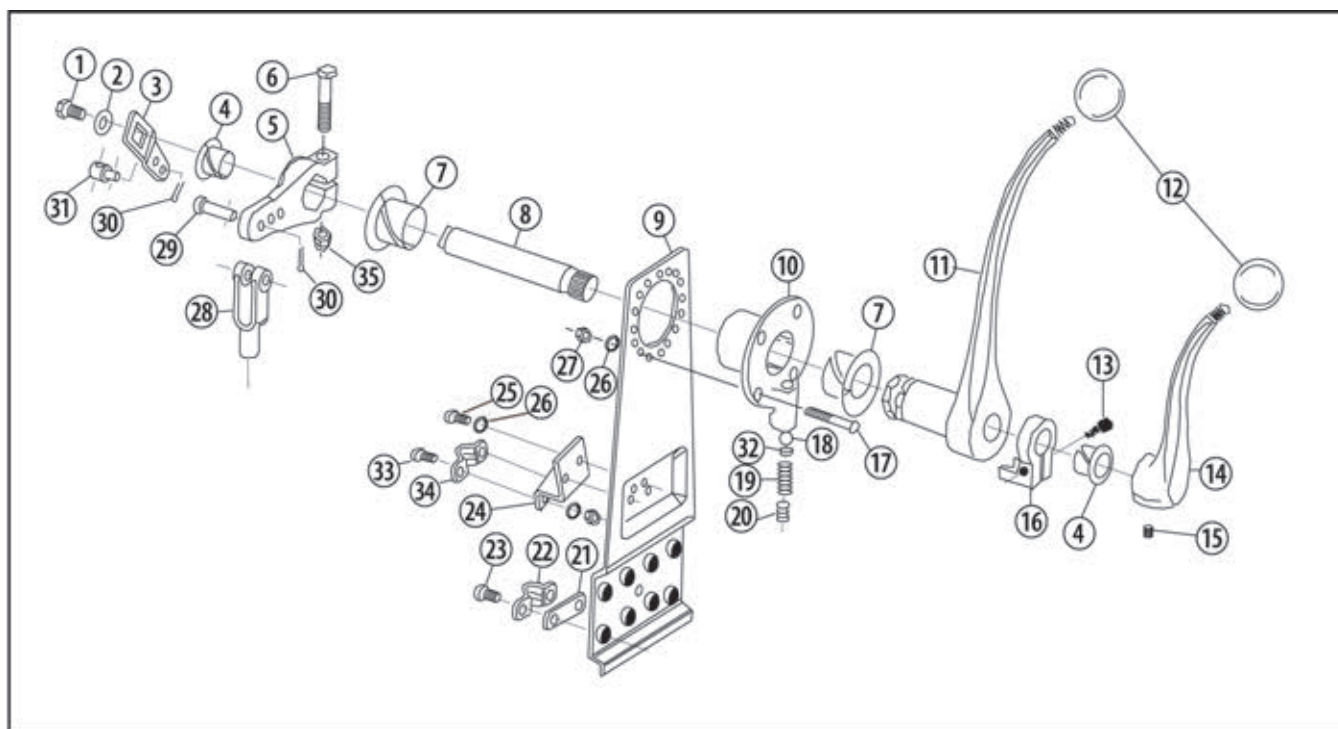

Figure 3.
STEP 4. Remove the screw (Item #1), lockwasher (Item #2), throttle arm (Item #3), bolt (Item #6), nut (Item #35), clutch arm (Item #5) and nylon bearing (Item #7) from the control head. See exploded view (Figure 3) for location of parts.
STEP 1. Mount the throttle cable mounting bracket (Item #24) to the hanger plate using the screws (Item #25) and lockwashers (Item #26) provided. Refer to exploded view (Figure 3) to determine which holes to use in regard to whether the cable is push-to-open or pull-to-open.